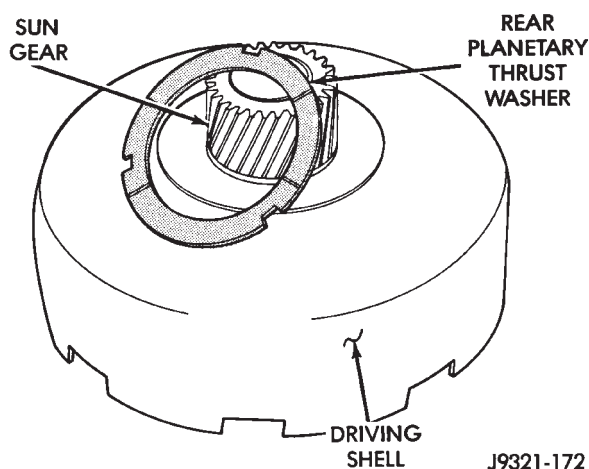

Fig. 74 Rear Planetary Thrust Washer Removal—46RH
(6) Remove tabbed thrust washer from rear planetary gear (Fig. 74). Note washer position on gear for assembly reference.